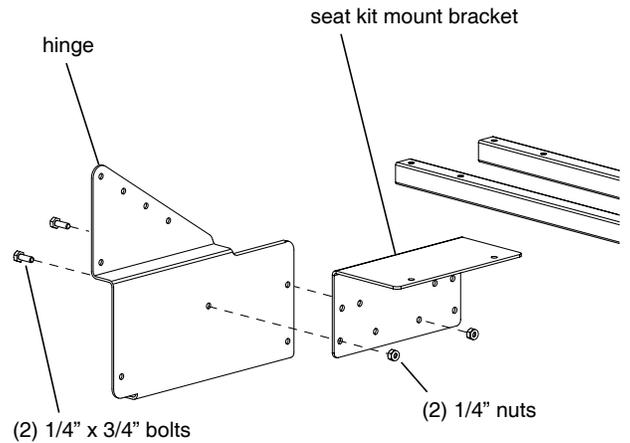

FIGURE 2 (right side shown)
1. Attach (2) seat kit mount brackets (68430) to each hinge assembly using (4) provided 1/4-20 x 3/4" hex head bolts and nyloc nuts. Make sure the mount brackets are positioned in the correct hole locations so seat brace and seat positions are correct later in instructions. **SEE FIGURE 2.**